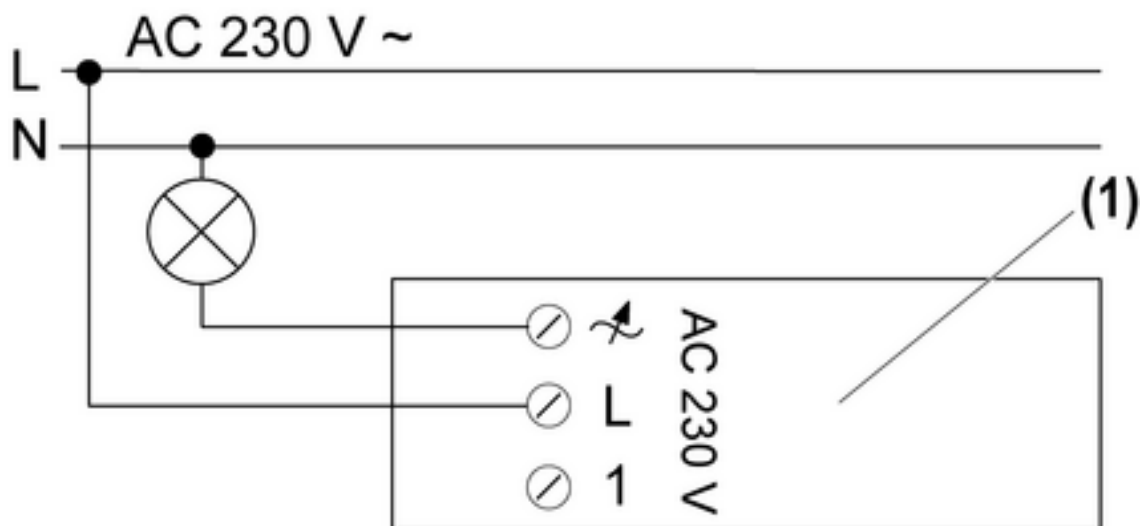
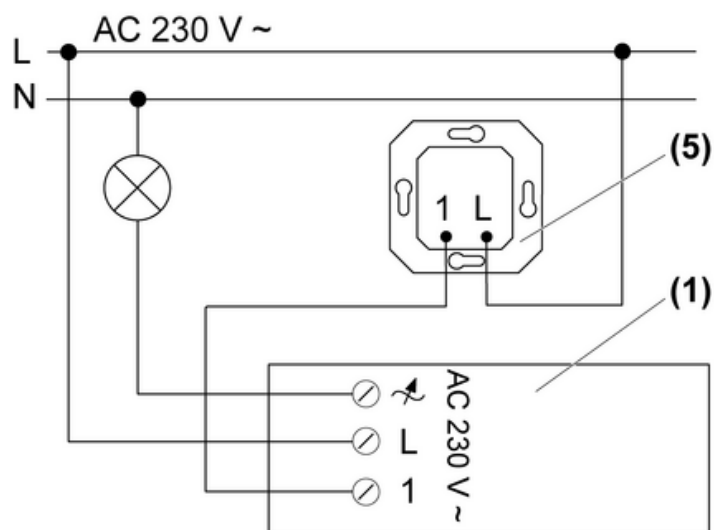
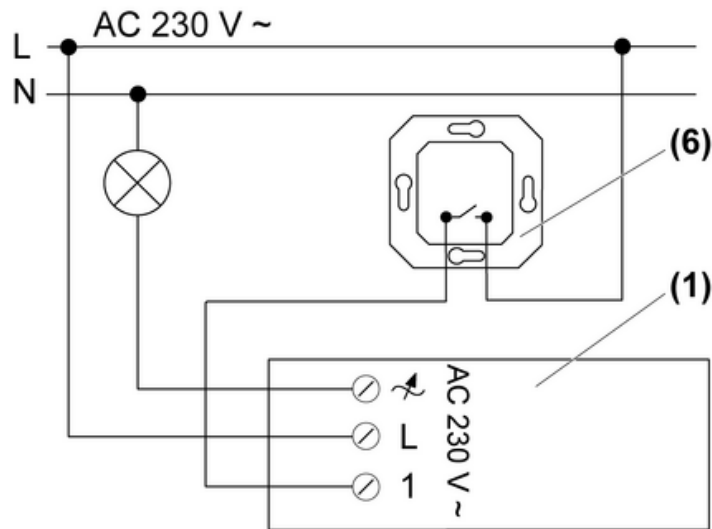

Figure 3: Connection diagram for dimmer
Figure 4: Connection diagram for dimmer with extension 2-wire
Figure 5: Connection diagram for dimmer with installation button
(6) Installation button
- Connect the dimmer according to the appropriate connection diagram (Figure 3), (Figure 4) or (Figure 5).